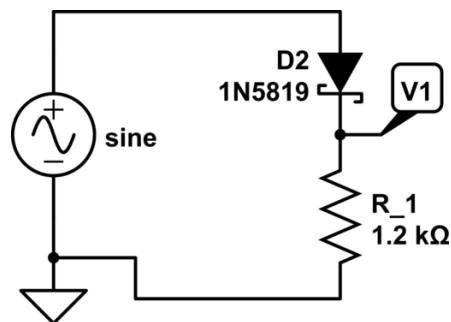

Figure 4: Half wave rectification
- Connect channel 1 of your scope to measure the output of the function generator, and channel 2 to measure at V1 as shown in figure 4.